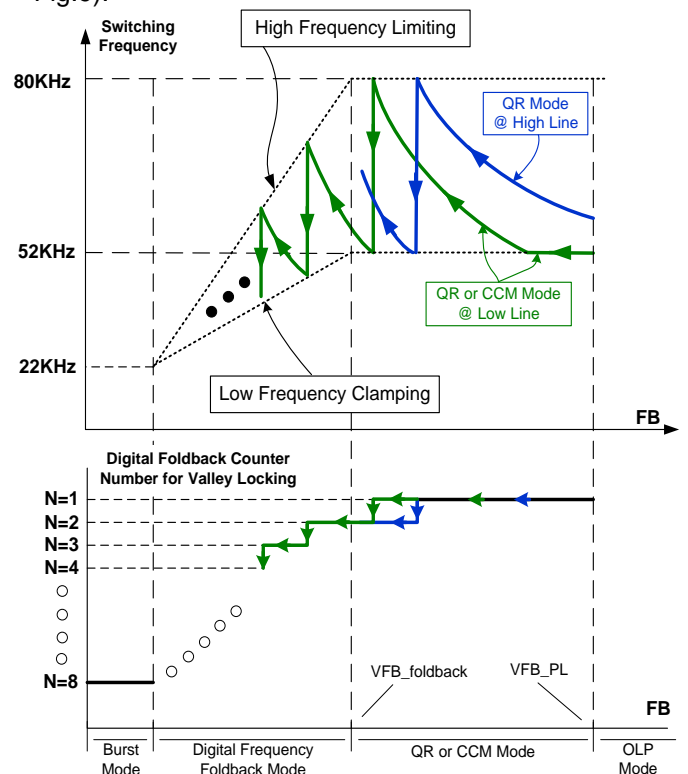
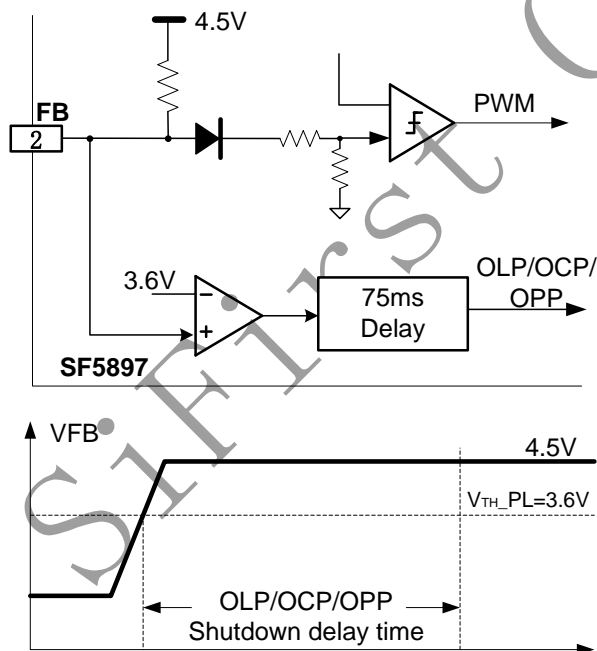
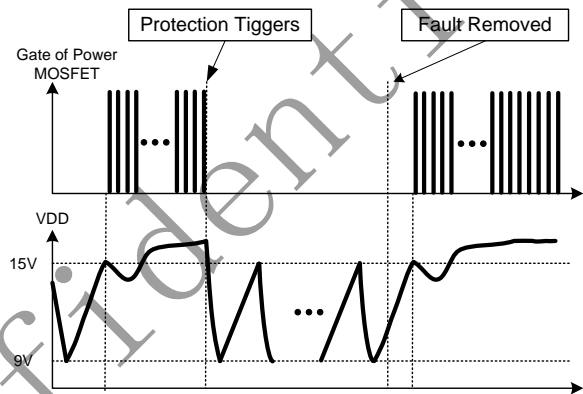

Fig.3
Fig.8
Fig.9
■ At normal or full loading conditions, the operating mode is CCM when the input is in low line range since the low clamping frequency (52KHz typical) is touched. Thus, small size transformer can be used with high power conversion efficiency. When the input is in high line input range, the IC work in QR mode with high frequency clamping (typical 80KHz), as shown in Fig.3. When FB voltage is larger than VFB\_PL, the system enters into OLP mode with auto recovery protection (as illustrated in Fig.8 and Fig.9).
VFB\_foldback), the IC works in “**Digital Frequency Foldback**” mode. The system frequency is limited between “High Frequency Limiting” and “Low Frequency Clamping”, as shown with the dashed line in Fig.3. In “**Digital Frequency Foldback**” mode, the IC locks the switching valley and selects the valley according to the load changes. There is a counter in SF5897, the IC selects the valleys according to the registered counter number. In SF5897, the maximum counting number is 8.
When OLP/OCP/OPP/Open Loop occurs, a fault is detected. If this fault is present for more than 75ms (typical), the protection will be triggered, the IC will experience an auto-recovery mode protection, as shown in Fig.8. The 75ms delay time is to prevent the false trigger from the power-on and turn-off transient.
As shown in Fig.9, once a fault condition is detected, switching will stop. This will cause  $V_{DD}$  to fall because no power is delivered from the auxiliary winding. When  $V_{DD}$  falls to UVLO(off) (typical 9V), the protection is reset and the operating current reduces to the startup current, which causes  $V_{DD}$  to rise, as shown in Fig.9. However, if the fault still exists, the system will experience the above mentioned process. If the fault has gone, the system resumes normal operation. In this manner, the auto restart can alternatively enable and disable the switching until the fault condition is disappeared.